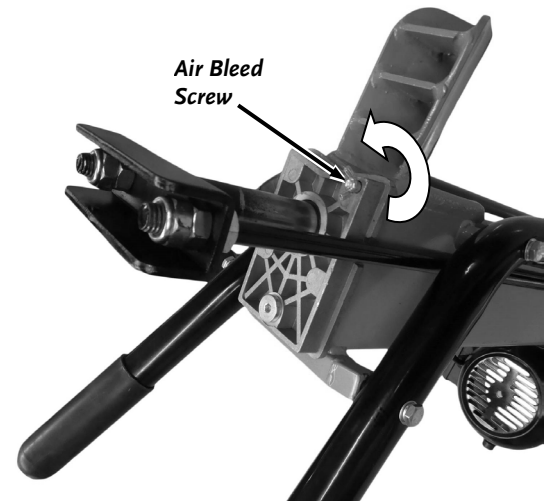

Figure 3
1. Prior to using the Electric Log Splitter, open the Air Bleed Screw by turning the Thumbscrew counter-clockwise three to four times (**Figure 3**). **Leave the Air Bleed Screw open in this position while using the machine.** We recommend closing the Air Bleed Screw after each use, but you can leave the Air Bleed Screw open when you are finished.